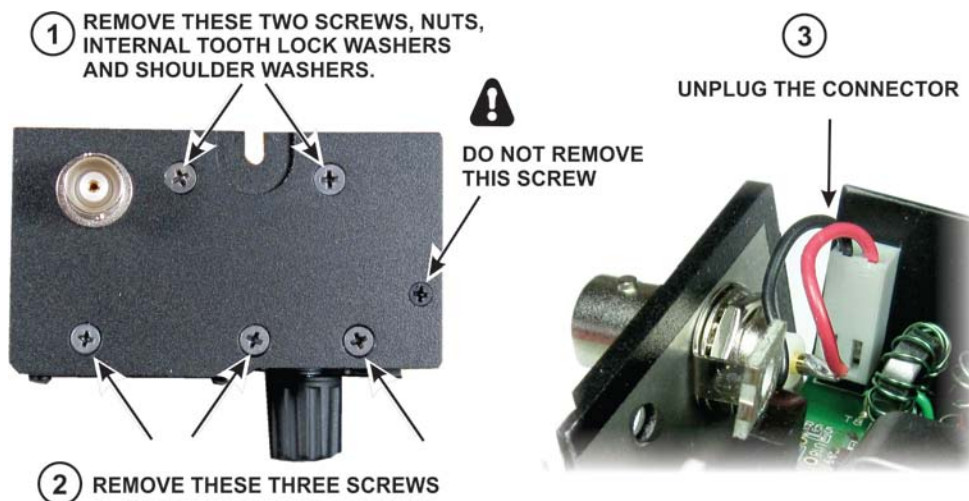
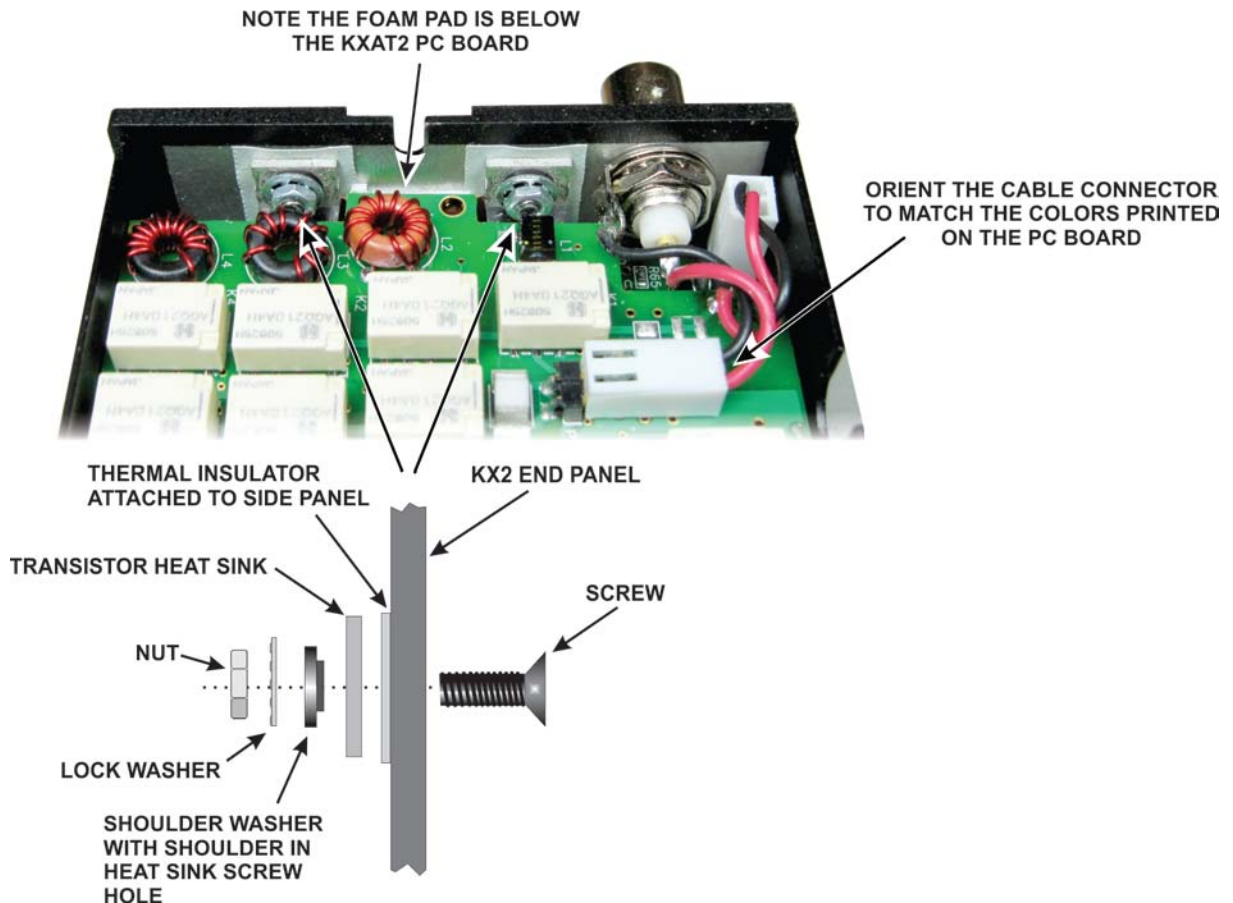

Figure 3. Removing the KX2 End Plate.
Figure 6. Finishing the KXAT2 Installation
2. Thin nose (1/8" or 3 mm) pliers to hold nuts with limited clearance space (see Figure 6 on page 5).
If you just installed the Harmonic Reduction modification, the end plate is already off. Skip to the next step. Otherwise, remove the end plate with the antenna connector as shown in Figure 3. The screw marked “Do Not Remove” connects to nothing inside the KX2. It ensures proper spacing between two circuit boards.
⚠ Take care to avoid losing the nuts, lock washers and shoulder washers holding the transistors inside your KX2 (see Figure 6 on page 5).
- Replace the end plate starting with the three short screws near the front panel (see Figure 3 on page 3) and then install the transistor mounting hardware as shown in Figure 6.
- Plug the cable from the antenna connector P1 on the KXAT2 board as shown in Figure 6.